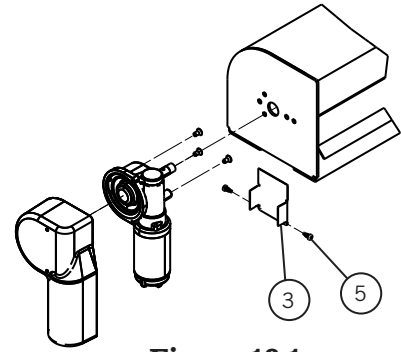

Figure 10-1
- Figure 10-1.** When installing on a tarp housing use the motor cover (3) with two #10 x 1 self-drilling pan head screws (5).